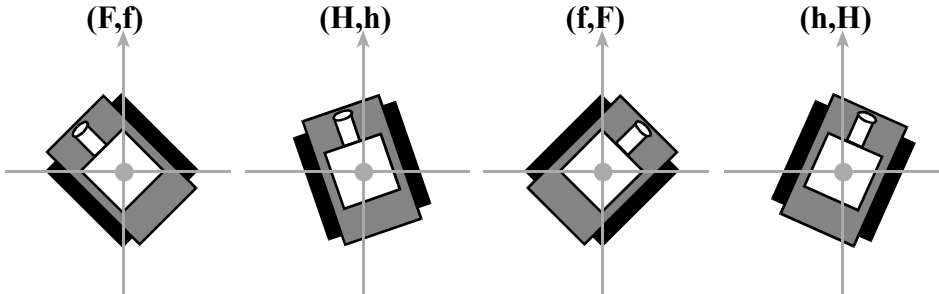

Figure 7. To rotate the robot step the track motors in opposite directions.
The second four commands are simple rotations, without translation, as shown in Figure 7. A counter-clockwise (CCW) rotation adds to the robot compass heading, while a clockwise (CW) rotation decreases the value of the heading. A collision is possible after a pure rotation because the simulation checks for overlapping volumes. The four full-step motions are listed in Table 3.